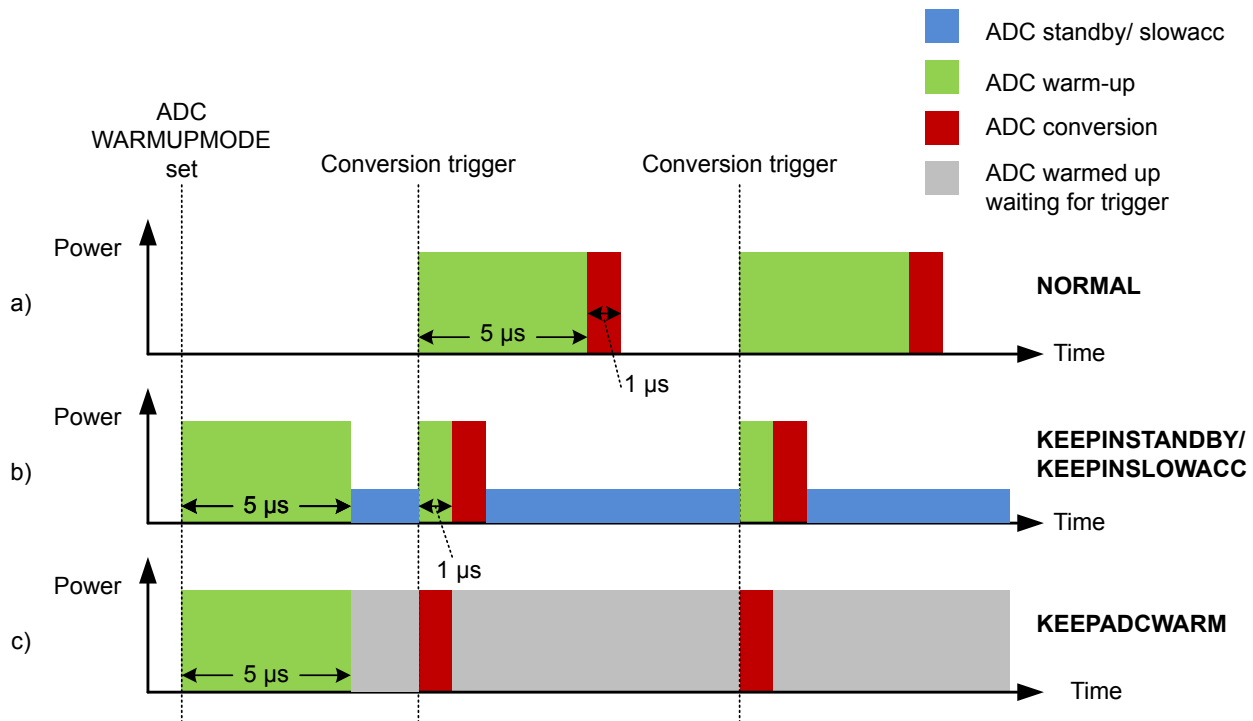

Figure 26.4. ADC Analog Power Consumption With Different WARMUPMODE Settings
Normally, the ADC will be warmed up only when samples are requested and is shut off when there are no more samples waiting. However, if lower latency is needed, configuring the WARMUPMODE field in ADCn_CTRL allows the ADC and/or reference to stay warm between samples, reducing the warm-up time or eliminating it altogether. Figure 26.4 ADC Analog Power Consumption With Different WARMUPMODE Settings on page 849 shows the effects on analog power consumption in scenarios using different WARMUPMODE settings.
- **NORMAL:** This is the lowest power option for general-purpose use and low sampling rates (below 35 ksps). The ADC and references are shut off when there are no samples waiting. The ADC does not consume any power when it is shut down. A 5 μ s warmup time will be initiated prior to every conversion. Figure a in Figure 26.4 ADC Analog Power Consumption With Different WARMUPMODE Settings on page 849 shows this mode.
- **KEEPINSTANDBY:** This mode is suitable for infrequent sampling of lower impedance inputs, and is the lowest power option for sampling rates between about 35 and 125 ksps. It may also be useful for lower sampling rates where latency is important. The reference selected for scan mode is kept warm, but the ADC is powered down. The ADC will initiate a 1 μ s warmup period before a conversion begins. Because the reference is kept warm, the ADC will consume a small amount of standby current when it is not converting. Figure b in Figure 26.4 ADC Analog Power Consumption With Different WARMUPMODE Settings on page 849 shows this mode.
- **KEEPADCWARM:** This mode provides the lowest latency and allows for maximum sampling rates. The ADC and reference circuitry remain powered on even when conversions are not in progress. Figure c in Figure 26.4 ADC Analog Power Consumption With Different WARMUPMODE Settings on page 849 shows this mode. This mode consumes the most power, but as soon as a trigger event occurs, the acquisition and conversion begin with no warm-up time. Note that if KEEPADCWARM mode is set and HFXO is selected as the ADC clock source, the HFXO will remain on in EM2.